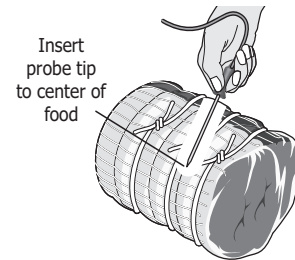

Figure 30: Probe in thickest area of food
- Insert the probe so that the probe tip rests inside the center of the thickest part of meat or food (See Figure 30). For best results, do not allow the probe temperature sensor to contact bone, fat, gristle, or the cookware.